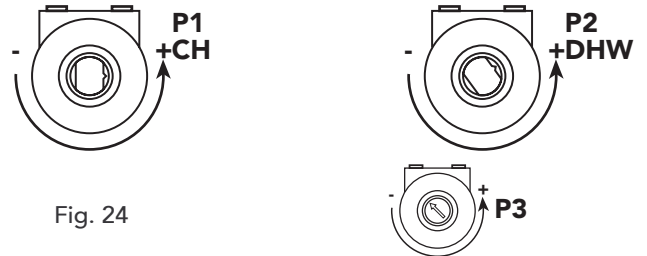

Fig. 24
5.04 Adjusting maximum output for central heating system (fig. 24)